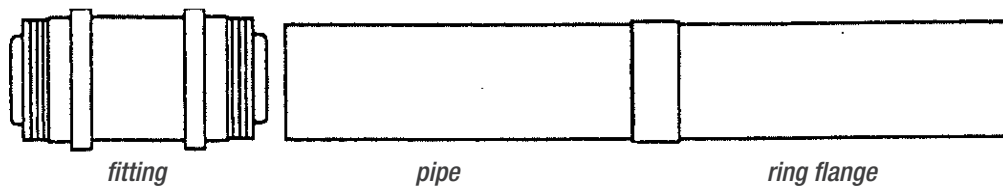

Figure 1
f. After the ring has been installed past the fitting's locking rib, release the hydraulic pump by turning the pump valve shown in *Figure 1* and remove the tool from the installed ring.